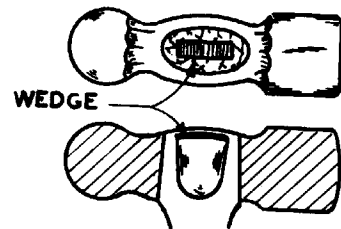

FIG. 4 HANDLE SECURELY FASTENED TO HEAD
1. Inspect the hammer to make sure that the head is securely fastened to the handle. To fasten the handle when it is loose, drive the wedge farther into the handle (Fig. 4). If the handle is split, it should be replaced.